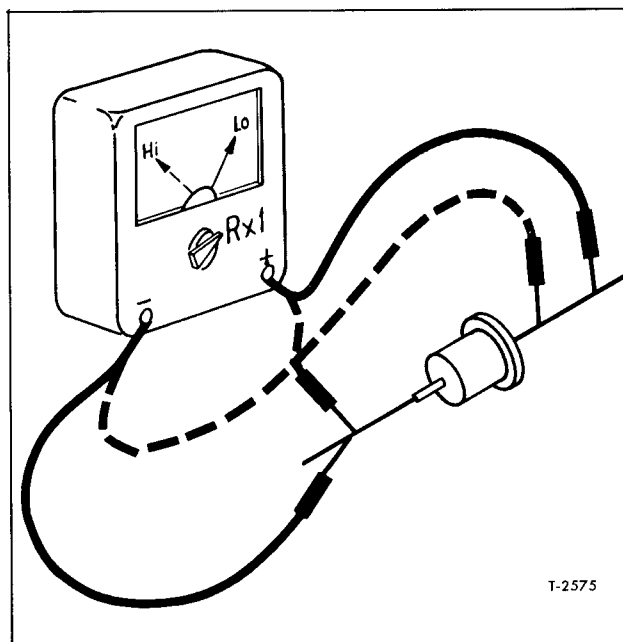

Figure 13—Testing Diode D1
e. To check diode D1, remove it from the circuit and measure resistance as shown in figure 13. Reverse leads and measure again. The low reading should be approximately 10 ohms and the high reading at least 5 times the low. If the readings are not right, replace the diode.
5. Pump down the refrigerant system as explained under "Pumping Down the System" in the "AIR CONDITIONING SYSTEM" section. Unsolder refrigerant lines at heat exchanger in condenser compartment (fig. 13 in "AIR CONDITIONING SYSTEM" section).